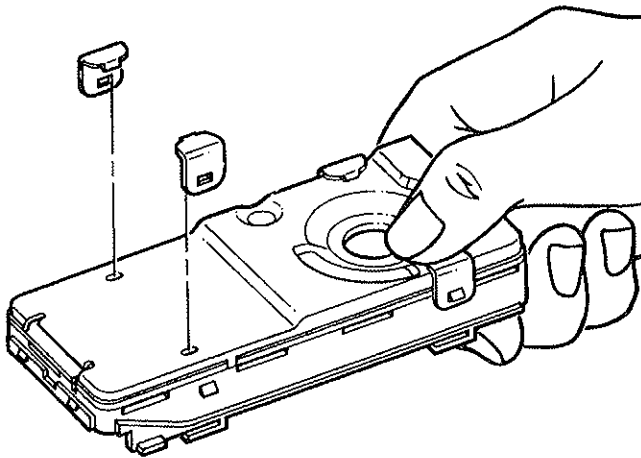

Figure 1-7. Reinsert Locking Clips
5. Hook locking clips first to the chassis tab, then push clip over on shield with thumb until clip locks into front shield holes (Figure 1-7).